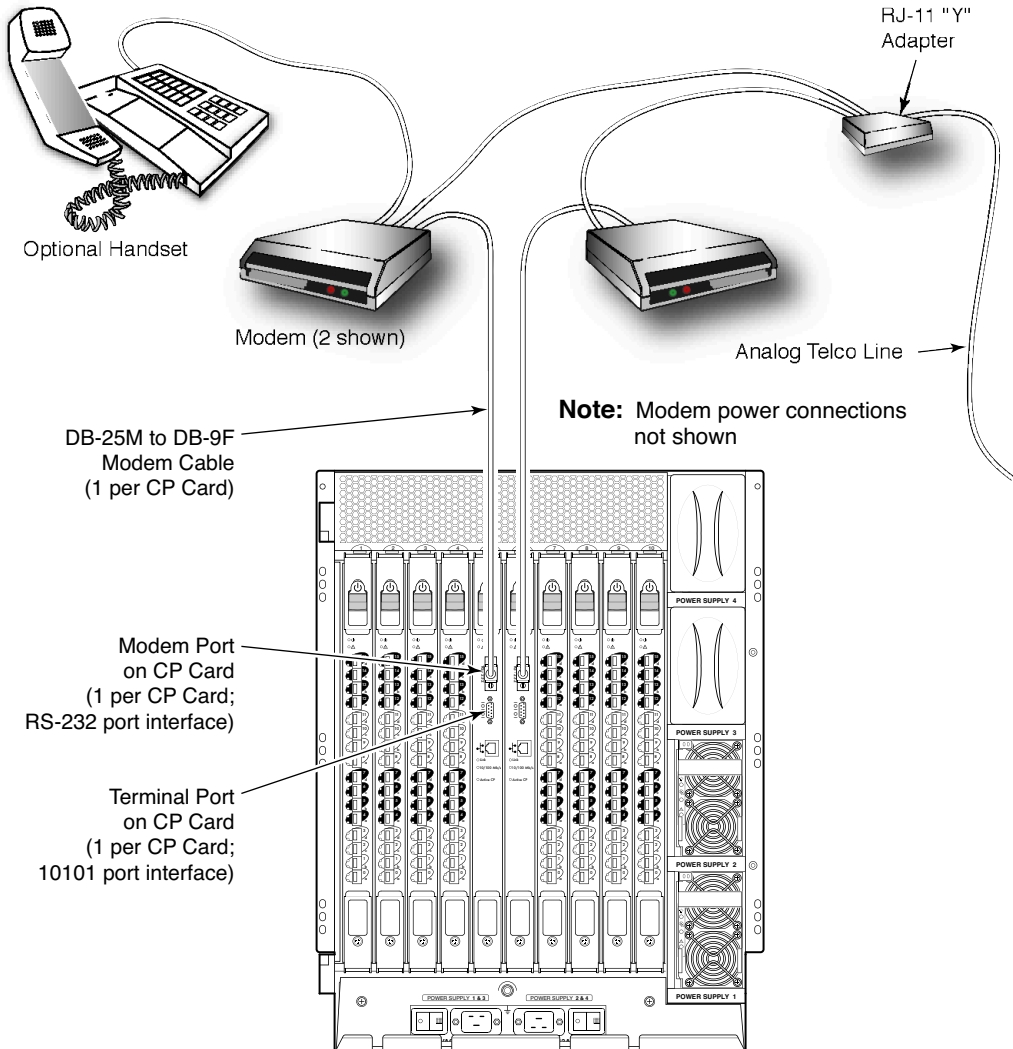

Figure 29 Two modems attached for high availability
You can ensure high availability of a modem connection by connecting a separate modem to each CP card and then connecting both modems to a shared telephone line (see Figure 29). This ensures an available telephone connection to the active CP card even if a failover occurs; however, you will need to log back in after a failover. When both CP cards are connected to a shared telephone line, callers automatically dial in to the active CP card, which answers on the first ring. If the active CP card cannot answer for any reason, the standby CP card answers on the seventh ring and allows login to proceed.
10. Remove the telco connector from the active CP card modem, leaving the telco line from the standby CP card connected to the Y connector (see Figure 29).